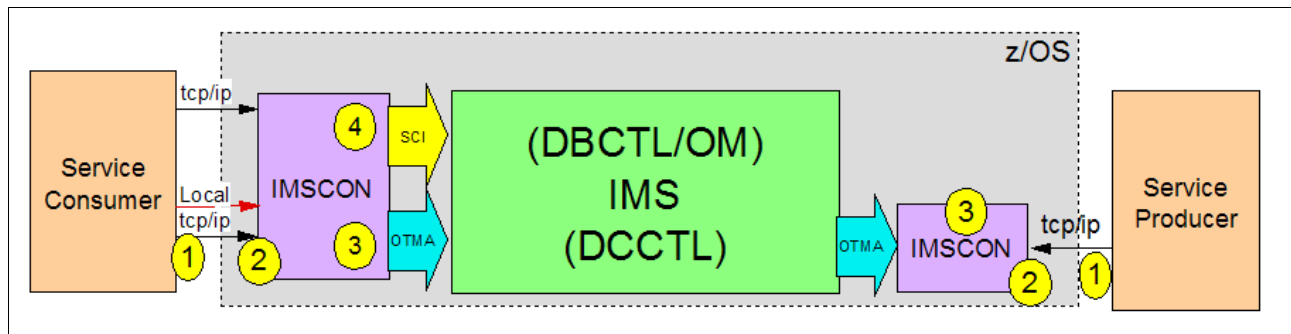

Figure 2-1 IMS Connect overview
As shown in Figure 2-1, a service consumer can connect through TCP/IP (local connect is also available) to the IMS server over the IMS Connect gateway. The local support facility allows communication by using Program Calls (PC) without requiring TCP/IP from a web serving application to IMS in a z/OS environment, which eases the management in this environment.
Here is an explanation of the numbered items in Figure 2-1: